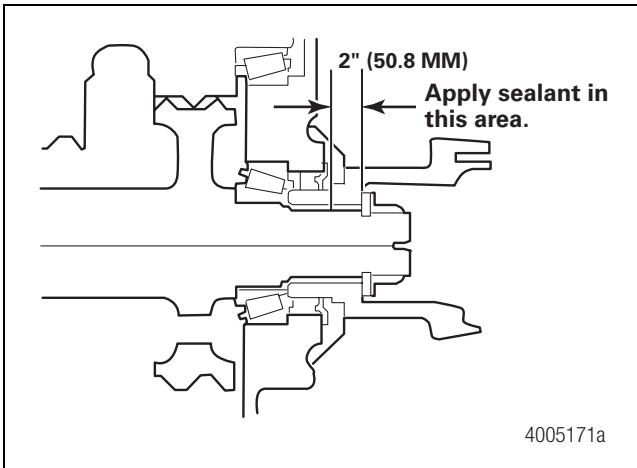

Figure 6.22
8. Before installing the yoke, clean the splines of old silastic. Apply a 1/8-inch (3.175 mm) bead of RTV 732 sealant 360 degrees around the outer two-inches (50.8 mm) of the yoke splines. Figure 6.22.